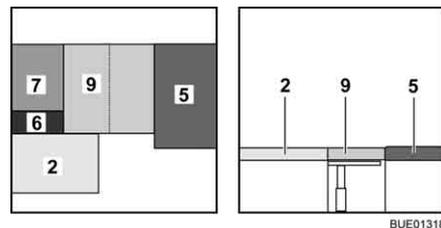

Fig. 148 After conversion
- Unfold the additional cushion (Fig. 148,9) and lay it on the table.